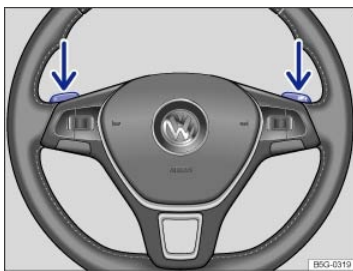

Fig. 106 Steering wheel with Tiptronic shift paddles (if equipped).
- The paddles ⇒ Fig. 106 (arrows) work when the selector lever is in the Tiptronic position or when the selector lever is in Drive or Sport Drive (D/S). You do not have to move the selector lever over to the right into the Tiptronic position.